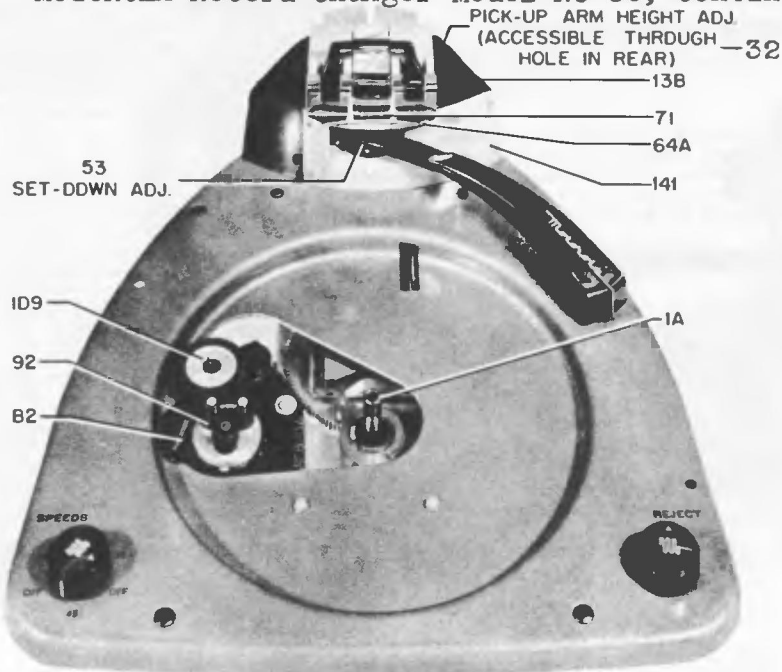

FIGURE 3. TOP VIEW OF RECORD CHANGER WITH TURNTABLE REMOVED
Refer to Figures 3, 4, 5, 6, 7 & 8 for location of the various parts described in this section. This will enable you to readily follow the operation of this unit.
2. The height adjustment screw (32) is accessible through a hole in the rear of the record support housing (138) (see Figure 3).
3. If insufficient clearance is noted, turn the height adjustment screw (32) clockwise to raise the arm, or counterclockwise to lower the arm, as required.